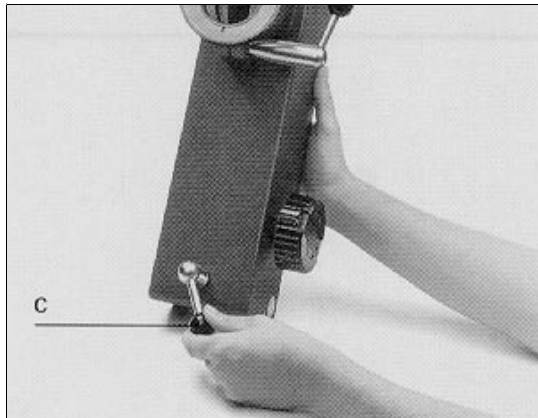

Figure 2-5. Vertical Carriage Locking Lever
- a. Loosen the locking lever (c, figure 2-5) by at least one full rotation.